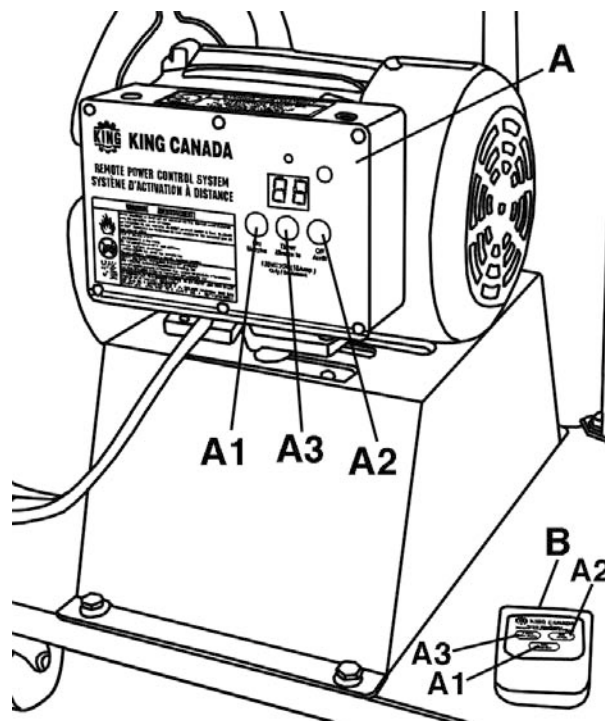

Figure 1
The remote power control can be operated from the system panel (A) Fig.1 hardwired to the dust collector motor or the remote control (B). Plug the motor power cord into an appropriate power source and press the "On" button (A-1). The dust collector will operate until the "Off" button (A-2) is pressed.